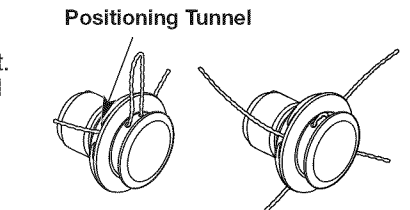

Fig. 16
5. Push and/or pull the line so that the line is snug against the hub and is fully extended through the positioning tunnels. (Fig. 16)